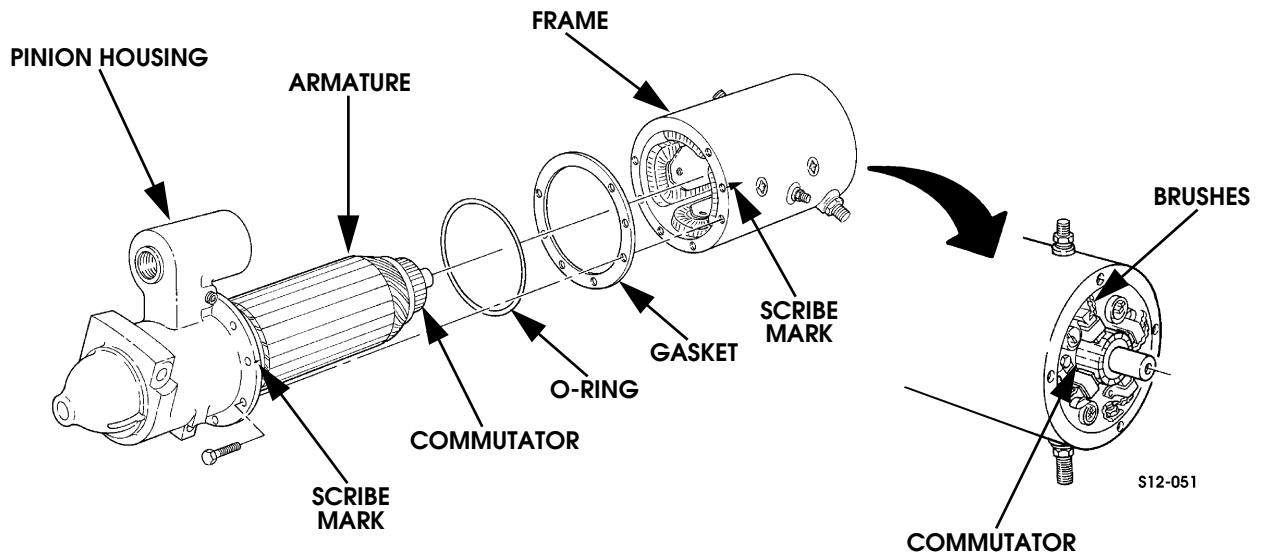

Figure 12-66: Assembling Frame, Armature, and Pinion Housing
16. Install O-ring and gasket in pinion housing (Figure 12-66).